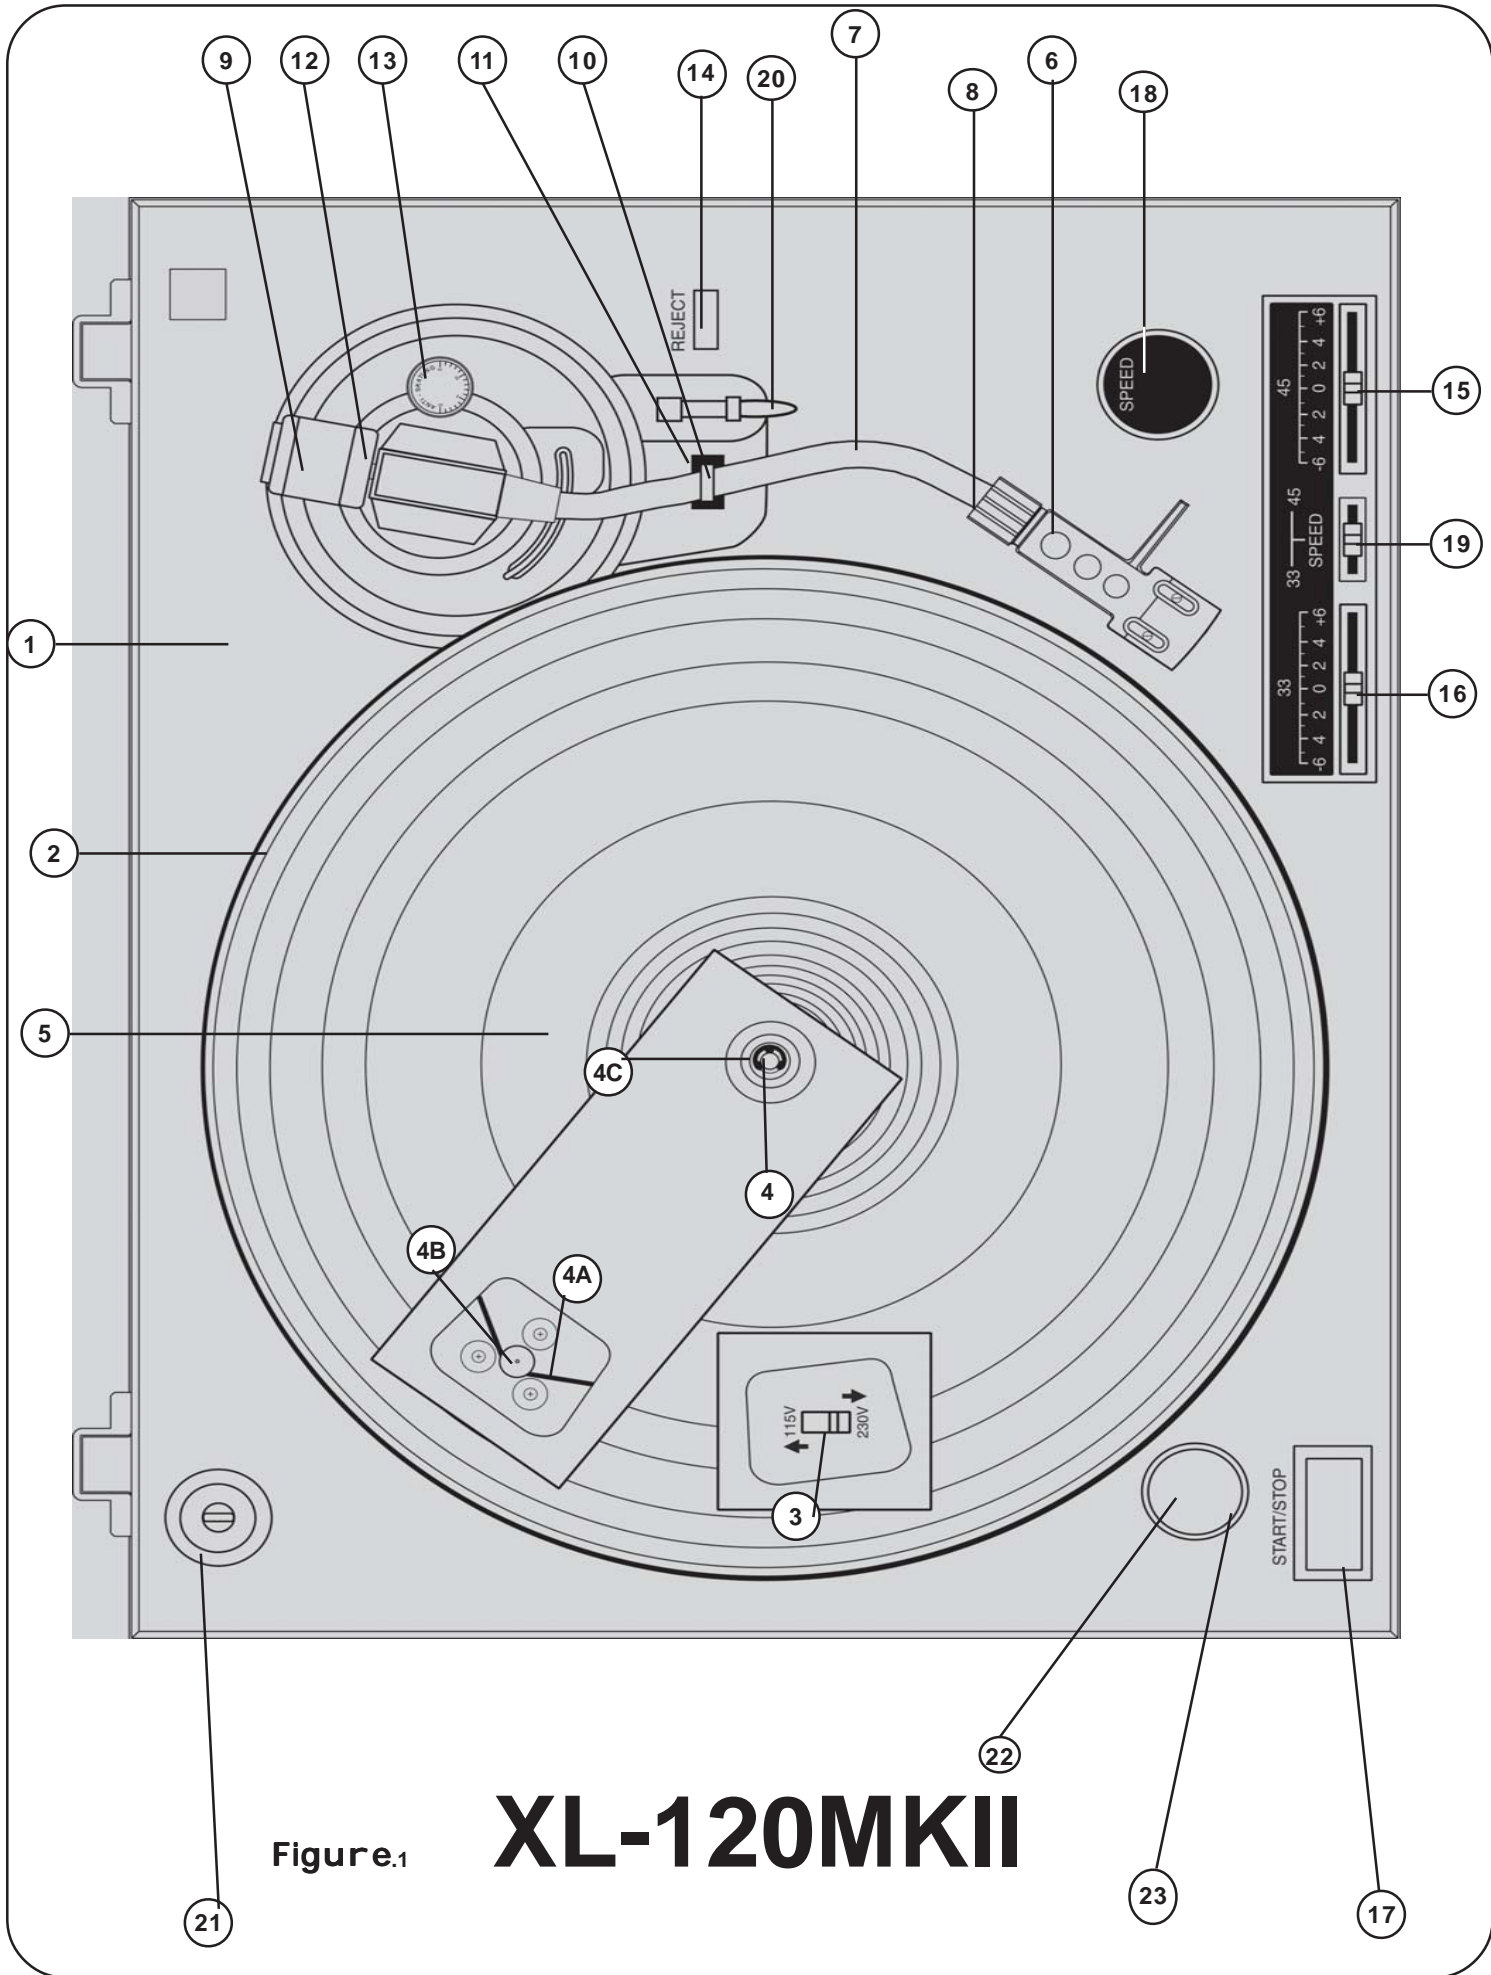

Figure.1 **XL-120MKII**
**NOTE: SEE FIG. 1 FOR PART NUMBERS AND LOCATIONS.**